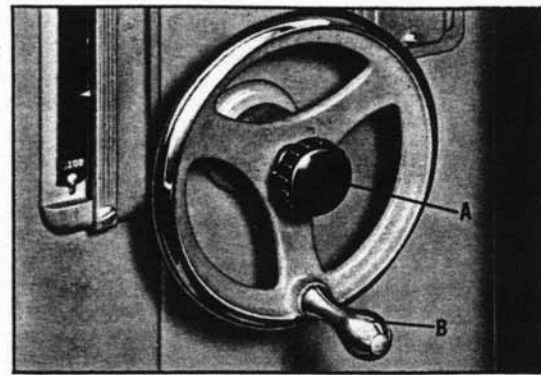

Fig. 7
The spindle can be raised and lowered by loosening handknob (A) and turning handwheel (B) Fig. 7. Always tighten handknob (B) after raising or lowering the spindle.